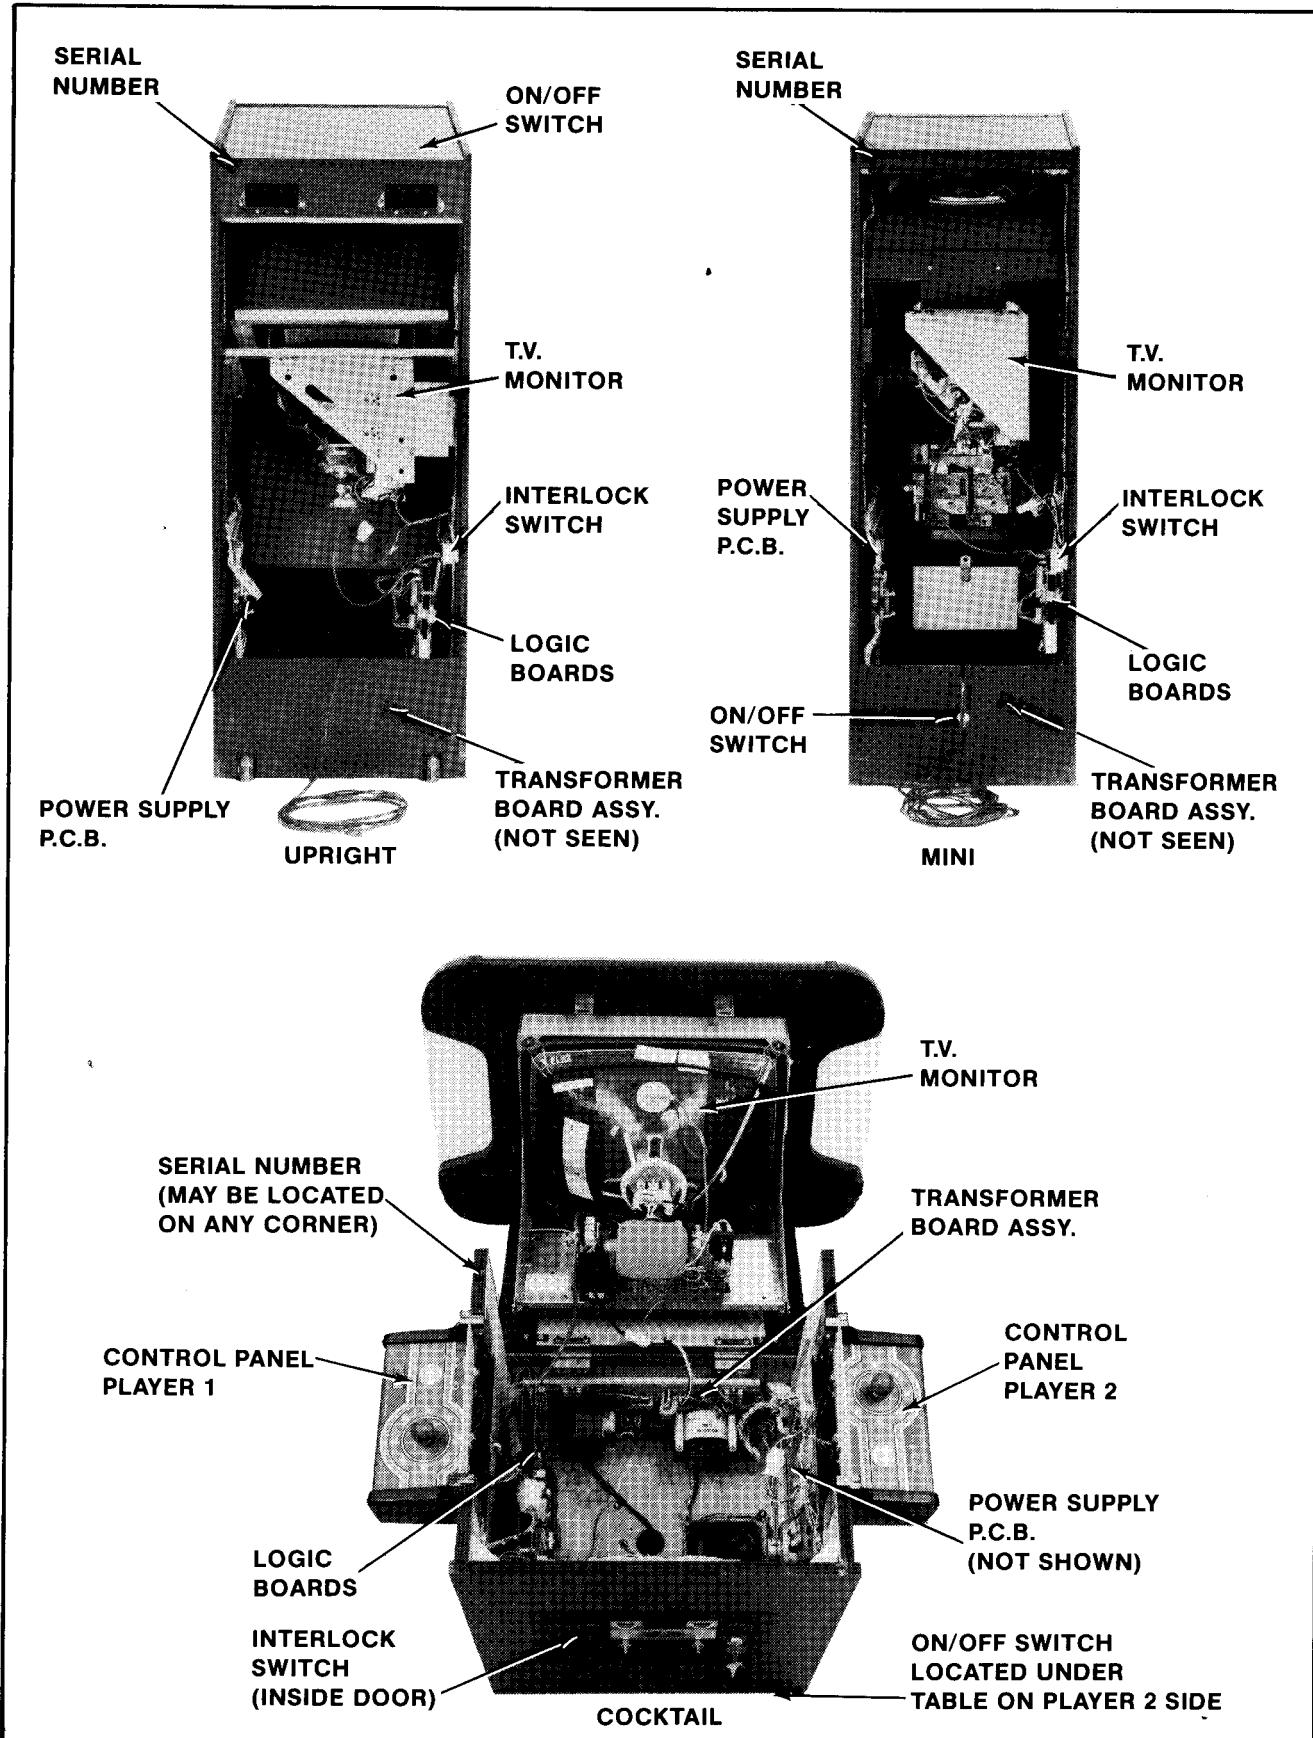

Figure 2-1 Location of Serial No., Interlock Switch, On/Off Switch, & Major Sub-Assemblies
| 2-2 Major Sub-Assemblies (Cont. from Fig. 2-1) | 2-3 |
5. Open the cabinet and inspect the inside of the game for any signs of damage. See Figure 2-1.
- Note the location of the game's serial number. See Figure 2-1.
- Check all major subassemblies to be sure they are mounted securely. These are called out in Figures 2-1 & 2-2.
3. Interlock and power ON/OFF switches. See Figure 2-1.
The game ON/OFF switches for all models are located as shown in Figure 2-1. Turn the game on and allow it to warm up a few minutes.